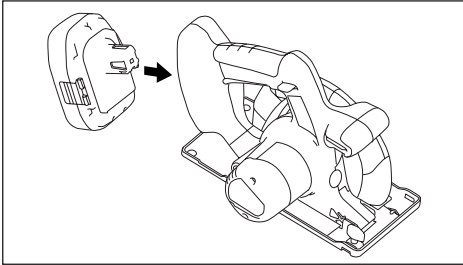

Fig.2
- 1.To insert the battery pack: (See Fig.2)